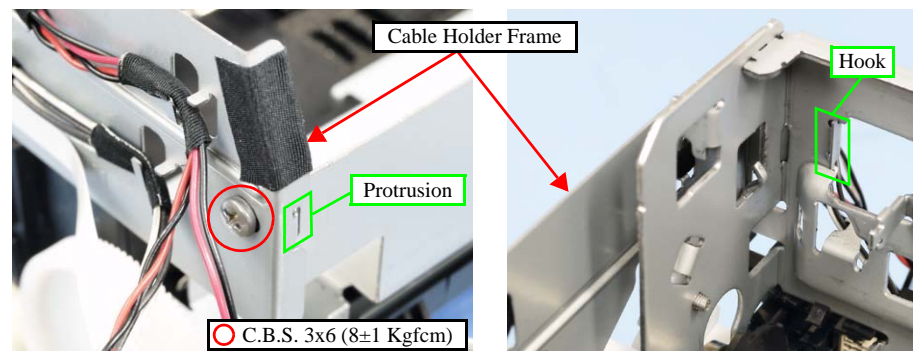

Figure 8-22. Removing the CR Unit (2)
- After installing the Cable Holder Frame, confirm the engagement of the protrusion, and then tighten the screw. (See Figure 8-22.)
- When installing the Cable Holder Frame, make sure that it is positioned correctly in the front and back direction. (Fig. 8-22)